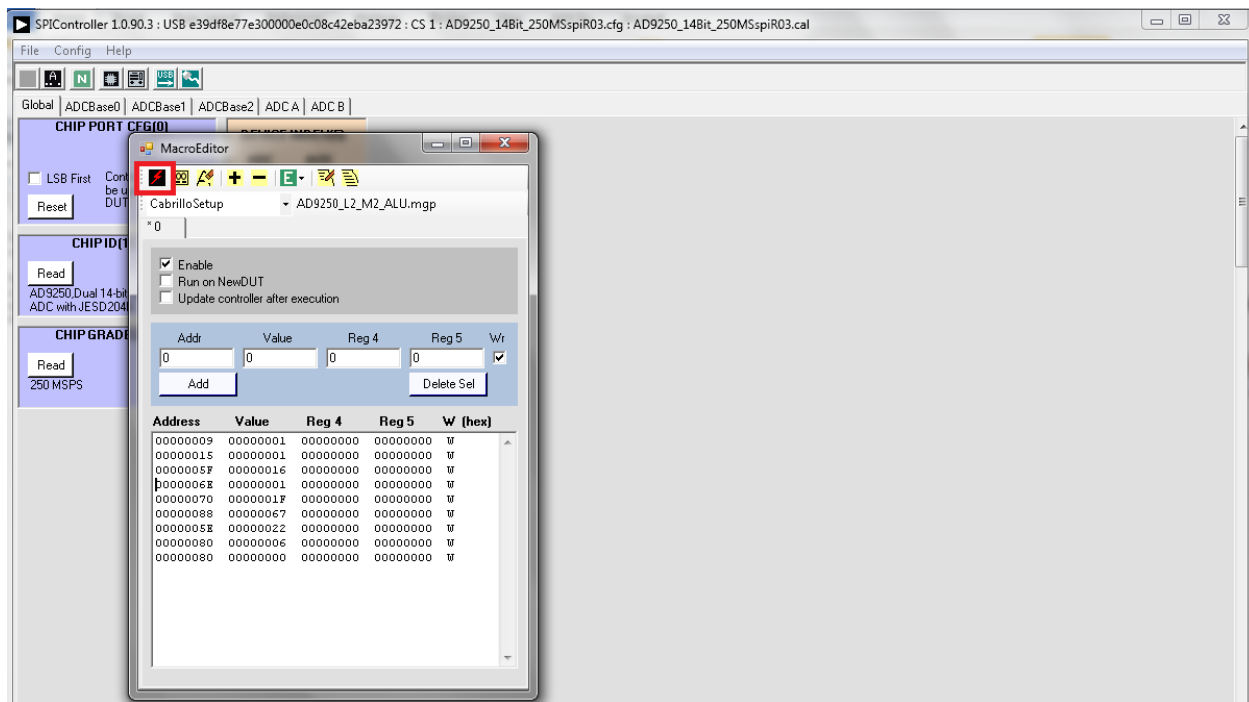

Figure 7. SPIController Software, Run Macro
18. Click **Run Macro** to configure the AD9250 or the AD6673 (see highlighted red in Figure 7).